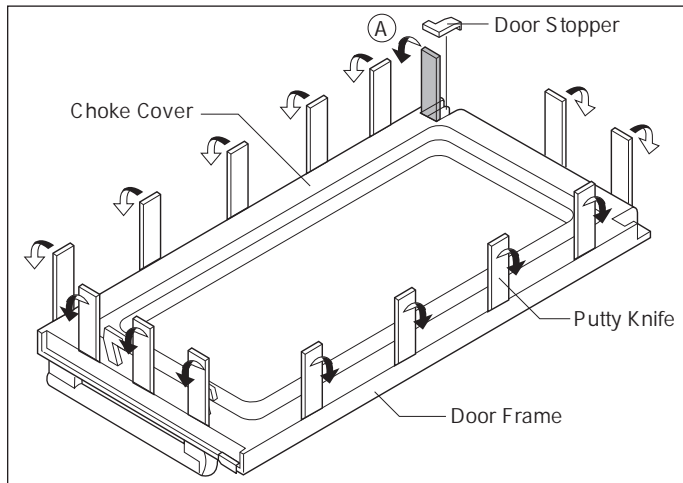

Figure 4-10. Door Disassembly
5. Insert a putty knife (thickness of about 0.5mm) into the gap A between the door stopper and the choke cover as shown in Figure 4-10 to free engaging parts.
7. Insert a putty knife (thickness of about 0.5mm) into the gap A between the choke cover and door stopper and between the choke cover and the door frame as shown Figure 4-10 to free engaging parts.
8. Pry the choke cover by inserting a putty knife in order shown in Figure 4-10.